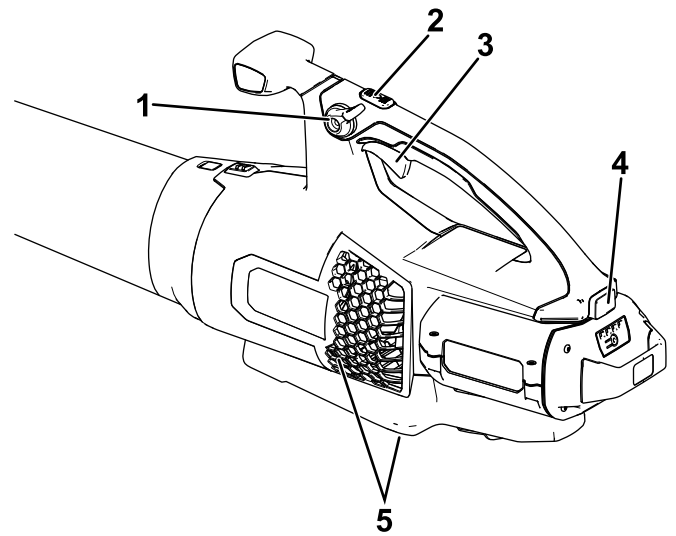

Figure 4
4. To start the blower, squeeze the variable-speed trigger (Figure 4).
**Note:** Engage the speed lock to keep the machine on without pressing the variable-speed trigger (Figure 4).
To achieve maximum performance (air speed), fully depress the variable-speed trigger, then press and hold the turbo boost button for the desired amount of time (Figure 4).
To adjust the air speed as you blow, use the variable-speed trigger (Figure 4).
To maintain the current air speed, engage the speed lock (Figure 4).
To shut off the blower, disengage the speed lock (if in use) and release the variable-speed trigger (Figure 4).